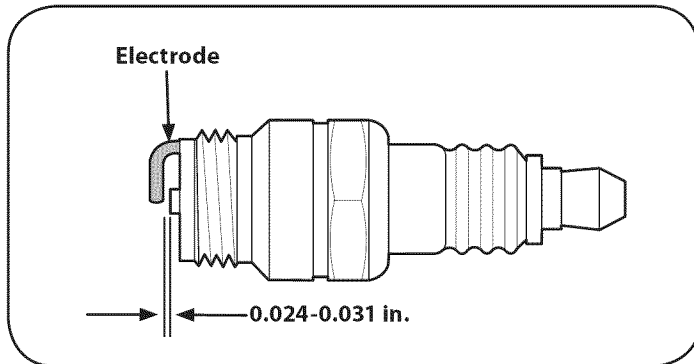

Figure 29
3. Measure the plug gap with a feeler gauge. Correct as necessary by bending side electrode. See Fig. 29. The gap should be set to between 0.024-0.031 in.